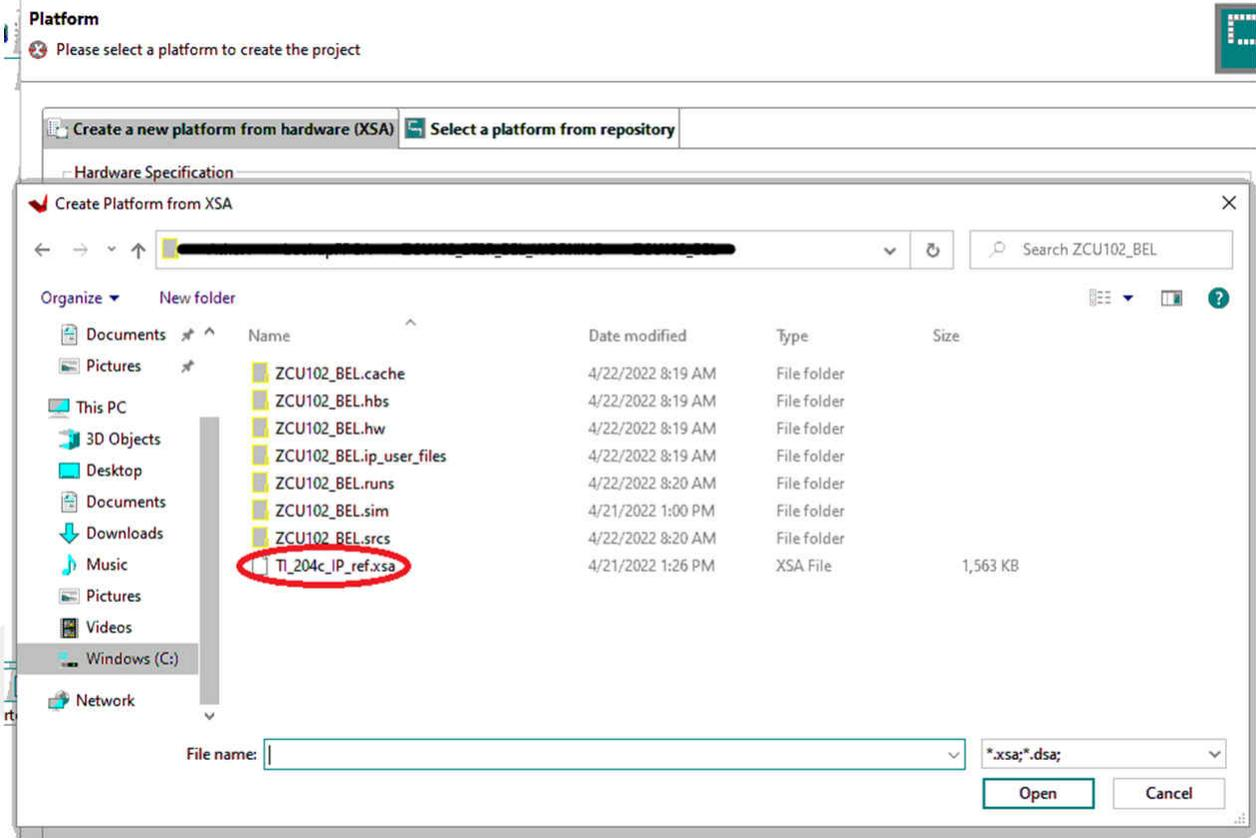

Figure 8-4. Selecting the Platform
4. Browse and select the .XSA file from the FPGA folder shared along with this document (see Figure 8-4).